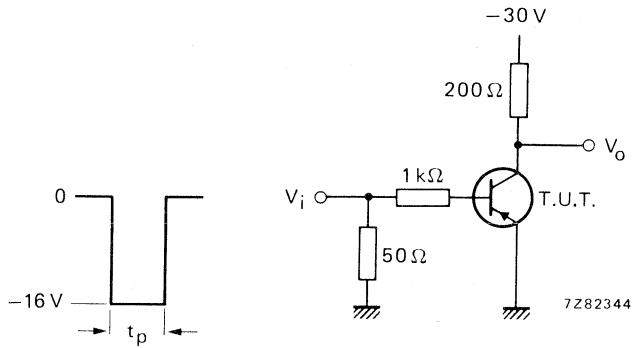

Fig. 3 Turn-on switching time test circuit.
- $-I_C = 150 \text{ mA}; -I_B = 15 \text{ mA};$ (see Fig. 3)